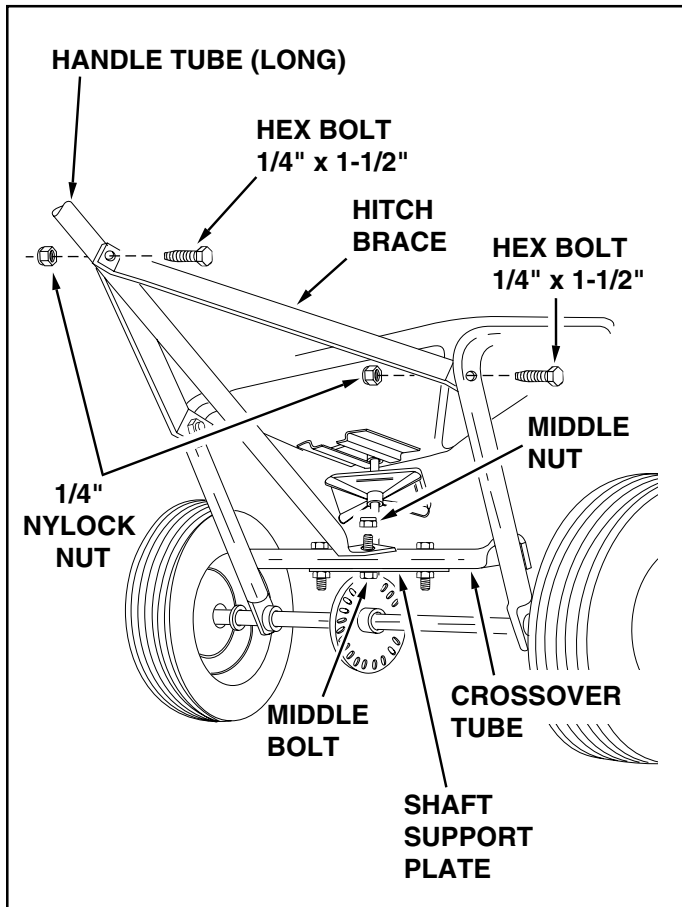

FIGURE 5
- Assemble two handle braces to the inside of the hopper frame, one on each side, using two 1/4" x 1-1/2" hex bolts and two 1/4" nylock nuts. See figure 5. **Do not tighten at this time.**
- Assemble the other end of the two handle braces to the long handle tube using a 1/4" x 1-1/2" hex bolt and 1/4" nylock nut. **Do not tighten at this time. See figure 5.**
- Tighten** all nuts and bolts in same sequence as assembled in steps 9 through 11. See figure 5.